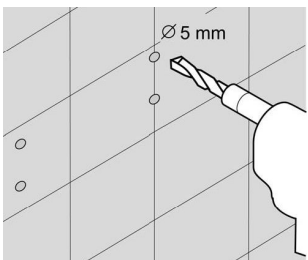

Fig. 7
3. Use a drill to make suitably sized holes at the points marked on the wall (Fig. 7).